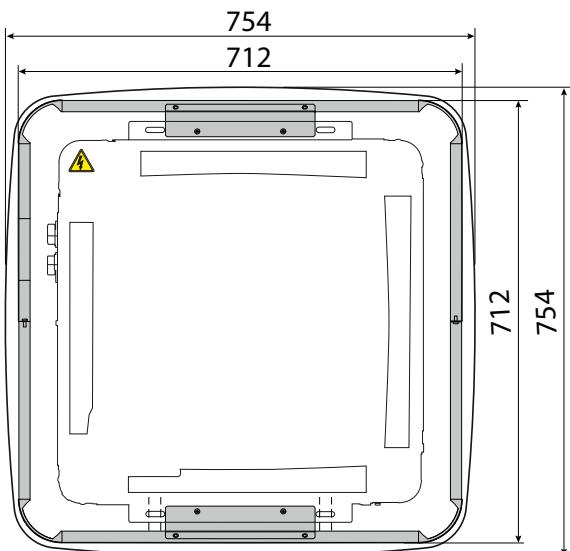

Fig. 1
- Make two holes for each FCL support as pictures (fig.1)